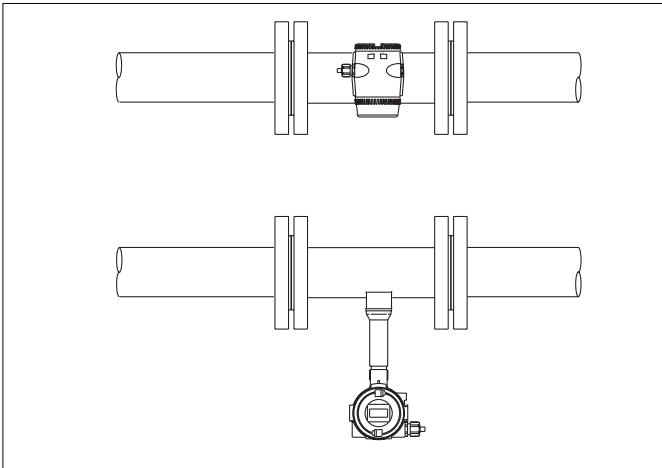

Fig. 4 Installations for High Fluid Temperatures >150 °C
- for high fluid temperatures the flowmeter primary is installed so that the electronic assembly is mounted at the side or bottom of the flowmeter (Fig. 4).